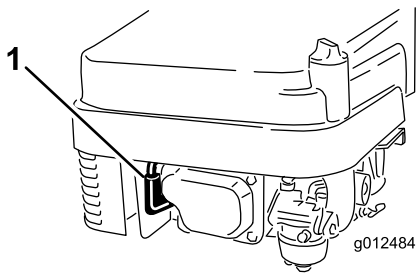

Figure 18
1. Connect the wire to the spark plug (Figure 18).